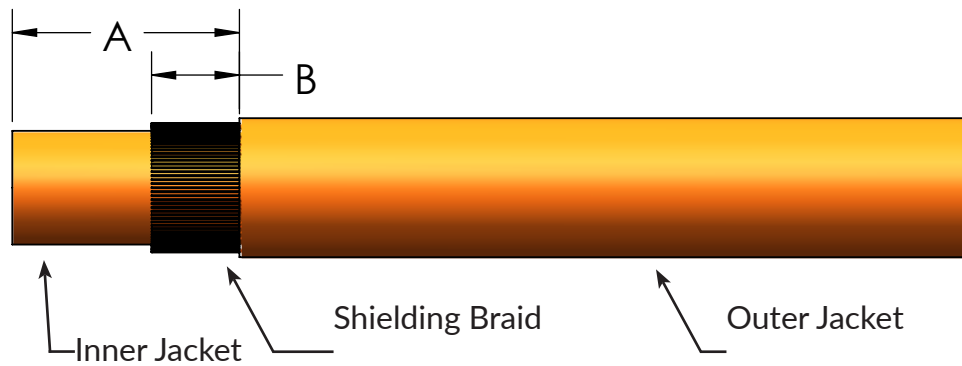

Figure 3
2) As figure 3 shown, strip the shielding braid per table 2 dimension “B”